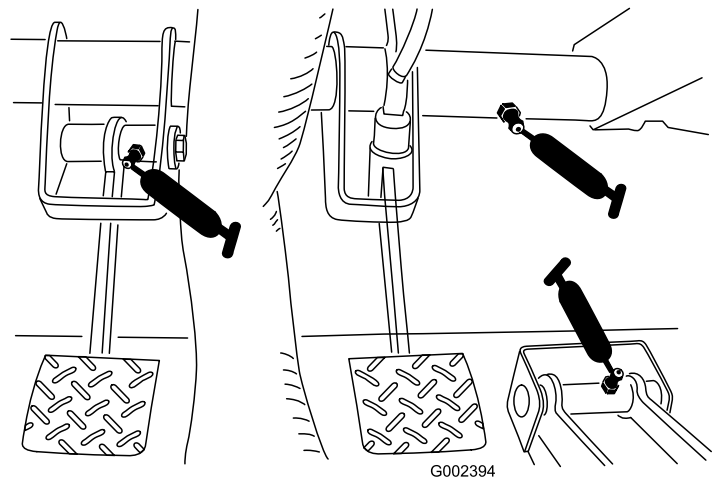

Figure 37
- Clutch (1), accelerator (1), brake (1) as shown in Figure 37